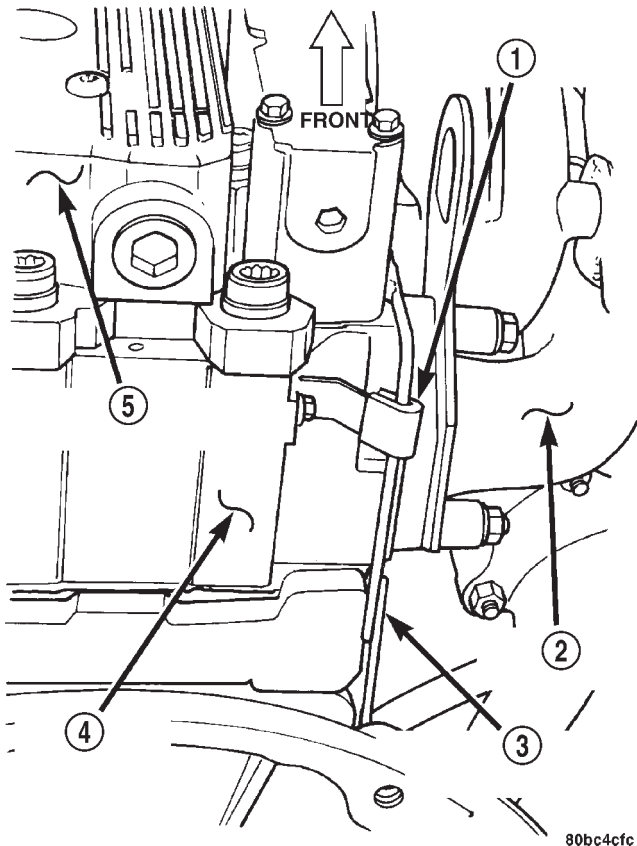

Fig. 58 Cylinder Head Oil Supply Line Retaining Clip
(22) Remove the oil feed line retaining clip at rear of the cylinder head (Fig. 58).